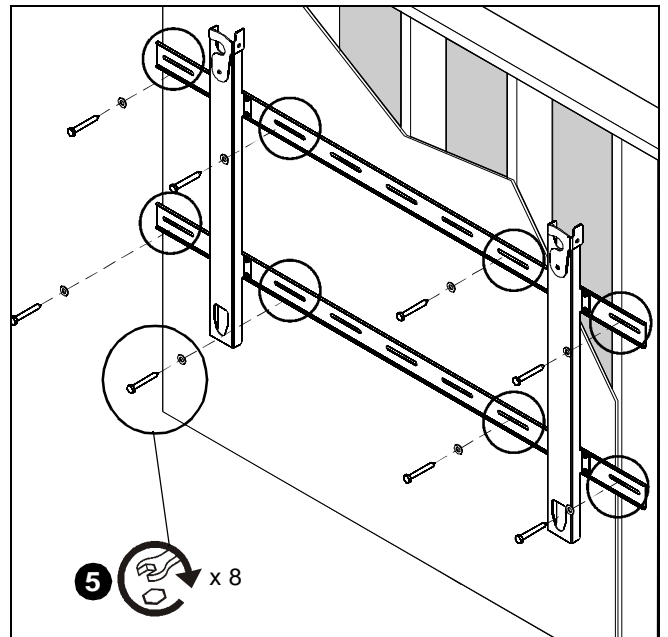

Figure 4
5. Secure mount to studs using appropriate hardware for mounting surface. (See Figure 4)